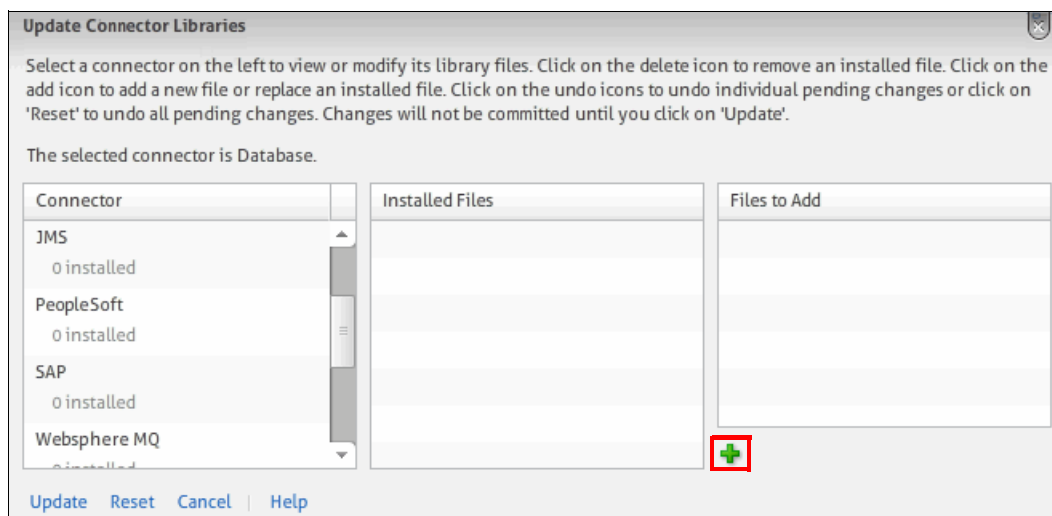

Figure 2-28 WMC connector library overview
3. In the Update connector Libraries panel, click the plus sign (+), as indicated in Figure 2-28.